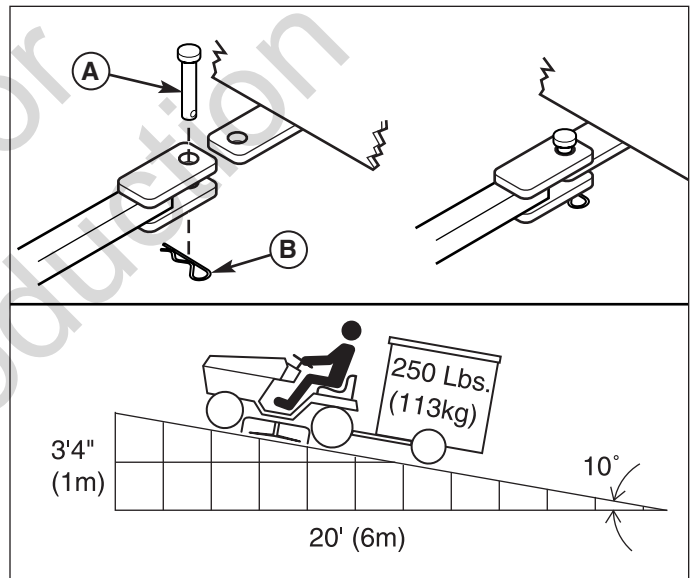

Figure 8. Trailer Weight Recommendations
The maximum horizontal drawbar force allowed is 280 Nm. The maximum vertical drawbar force is 160 Nm. This equates to a 250 lbs (113 kg) trailer on a 10 degree hill. Secure the trailer with an appropriately sized clevis pin (A, Figure 8) and clip (B).